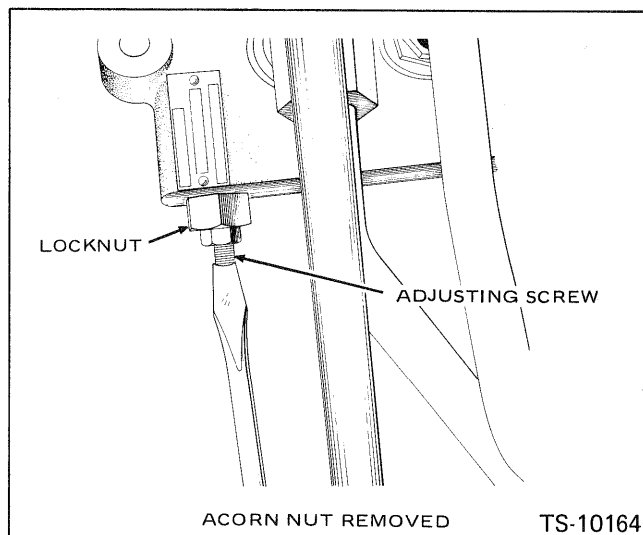

Fig. 10-6 Adjust Pressure -- Main Relief Valve
5. Put the machine into a full left hand turn and hold the lever in the full turn position. The gauges should register 1,600 p.s.i. at 2,000 rpm. If not, adjust the main relief by removing the acorn nut, loosening the jam nut and adjusting the set screw located on the top of the main control valve assembly until 1,600 p.s.i. registers on the gauge. Fig. 10-6.